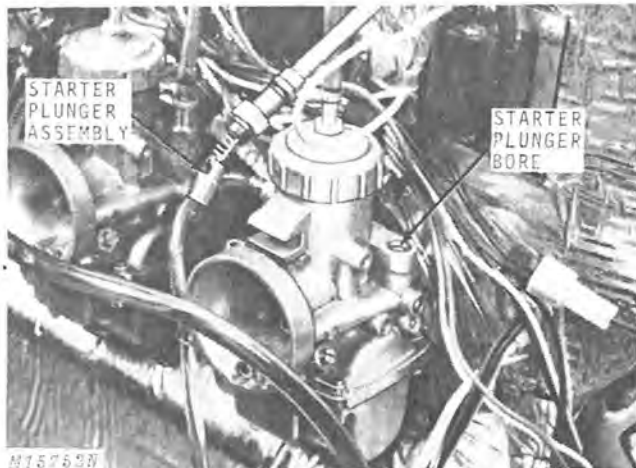

Fig. 6-Removing Starter Plunger Assembly
3. Loosen lock nut on starter cable and remove starter plunger assembly from mixing chamber body, Fig. 6.